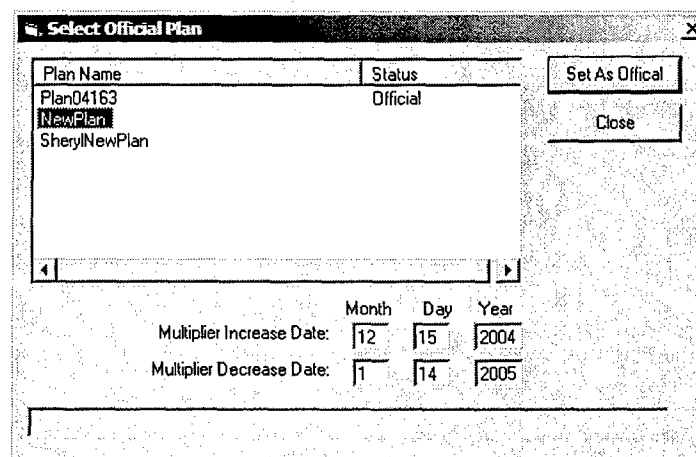

Figure 33. Select Official Plan
2. Select a plan from the list on the screen shown in Figure 33. The plan that is currently official is denoted as such.
6. When you are finished changing the Official Plan, close the *Select Official Plan* screen (Figure 33).